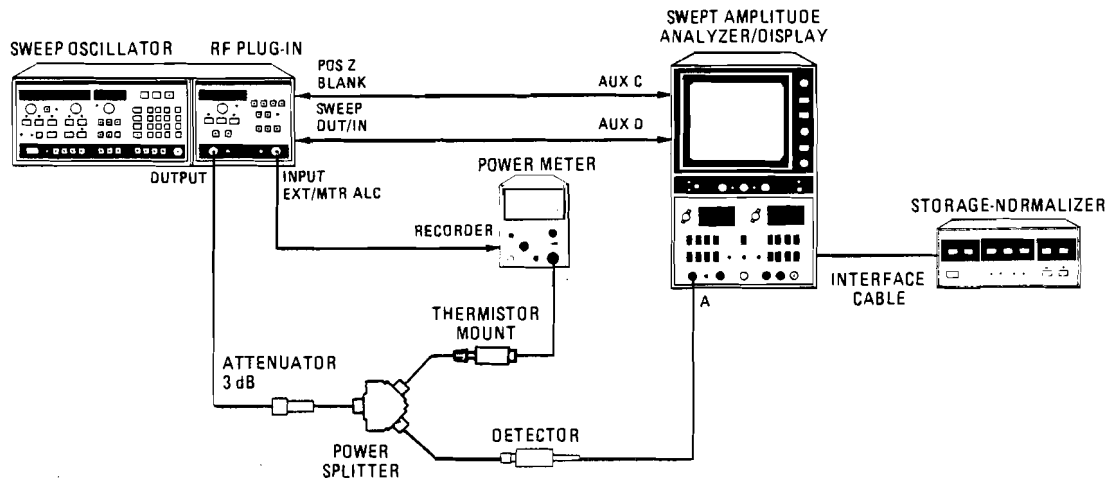

Figure 4-3. Output Amplitude Test Setup
1. Connect equipment as shown in Figure 4-3. Turn on Storage-Normalizer and Swept Amplitude Analyzer. Adjust GAIN and REFERENCE POSITION controls as per the Amplitude Analyzer manual. Adjust Storage-Normalizer per its operation section to match the Swept Amplitude Analyzer using the Network Analyzer card.